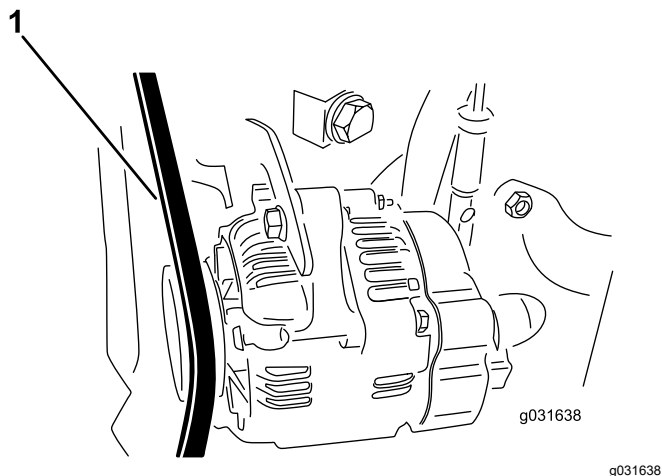

Figure 61
2. Check the tension by pressing the belt midway between the alternator and crankshaft pulleys with 30 N·m (22 in-lb) of force (Figure 61).